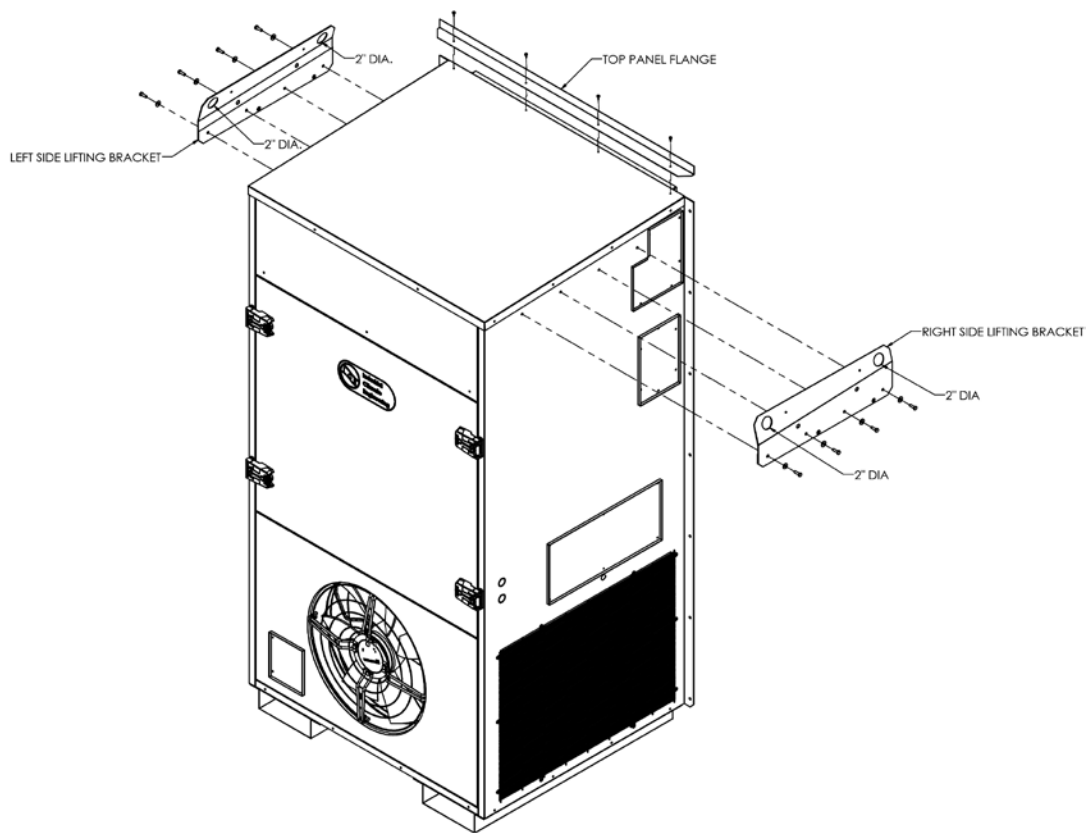

Figure 3 Top Flange and Lifting Bracket Installation (Typical)
2.5 Top Flange Installation (See Figure 3)
Lifting brackets are available which can be installed on the top of the side panels. These brackets allow the unit to be picked up using lifting eyes in the brackets. Attach the brackets to the left and right side panels as shown in Figure 3. The MGA units are shipped with the 4 screws for attaching the brackets installed in the holes at the top of the side panels. When attaching the brackets, remove and reinstall the screws and make sure the top of the bracket is angled towards the center of the unit.